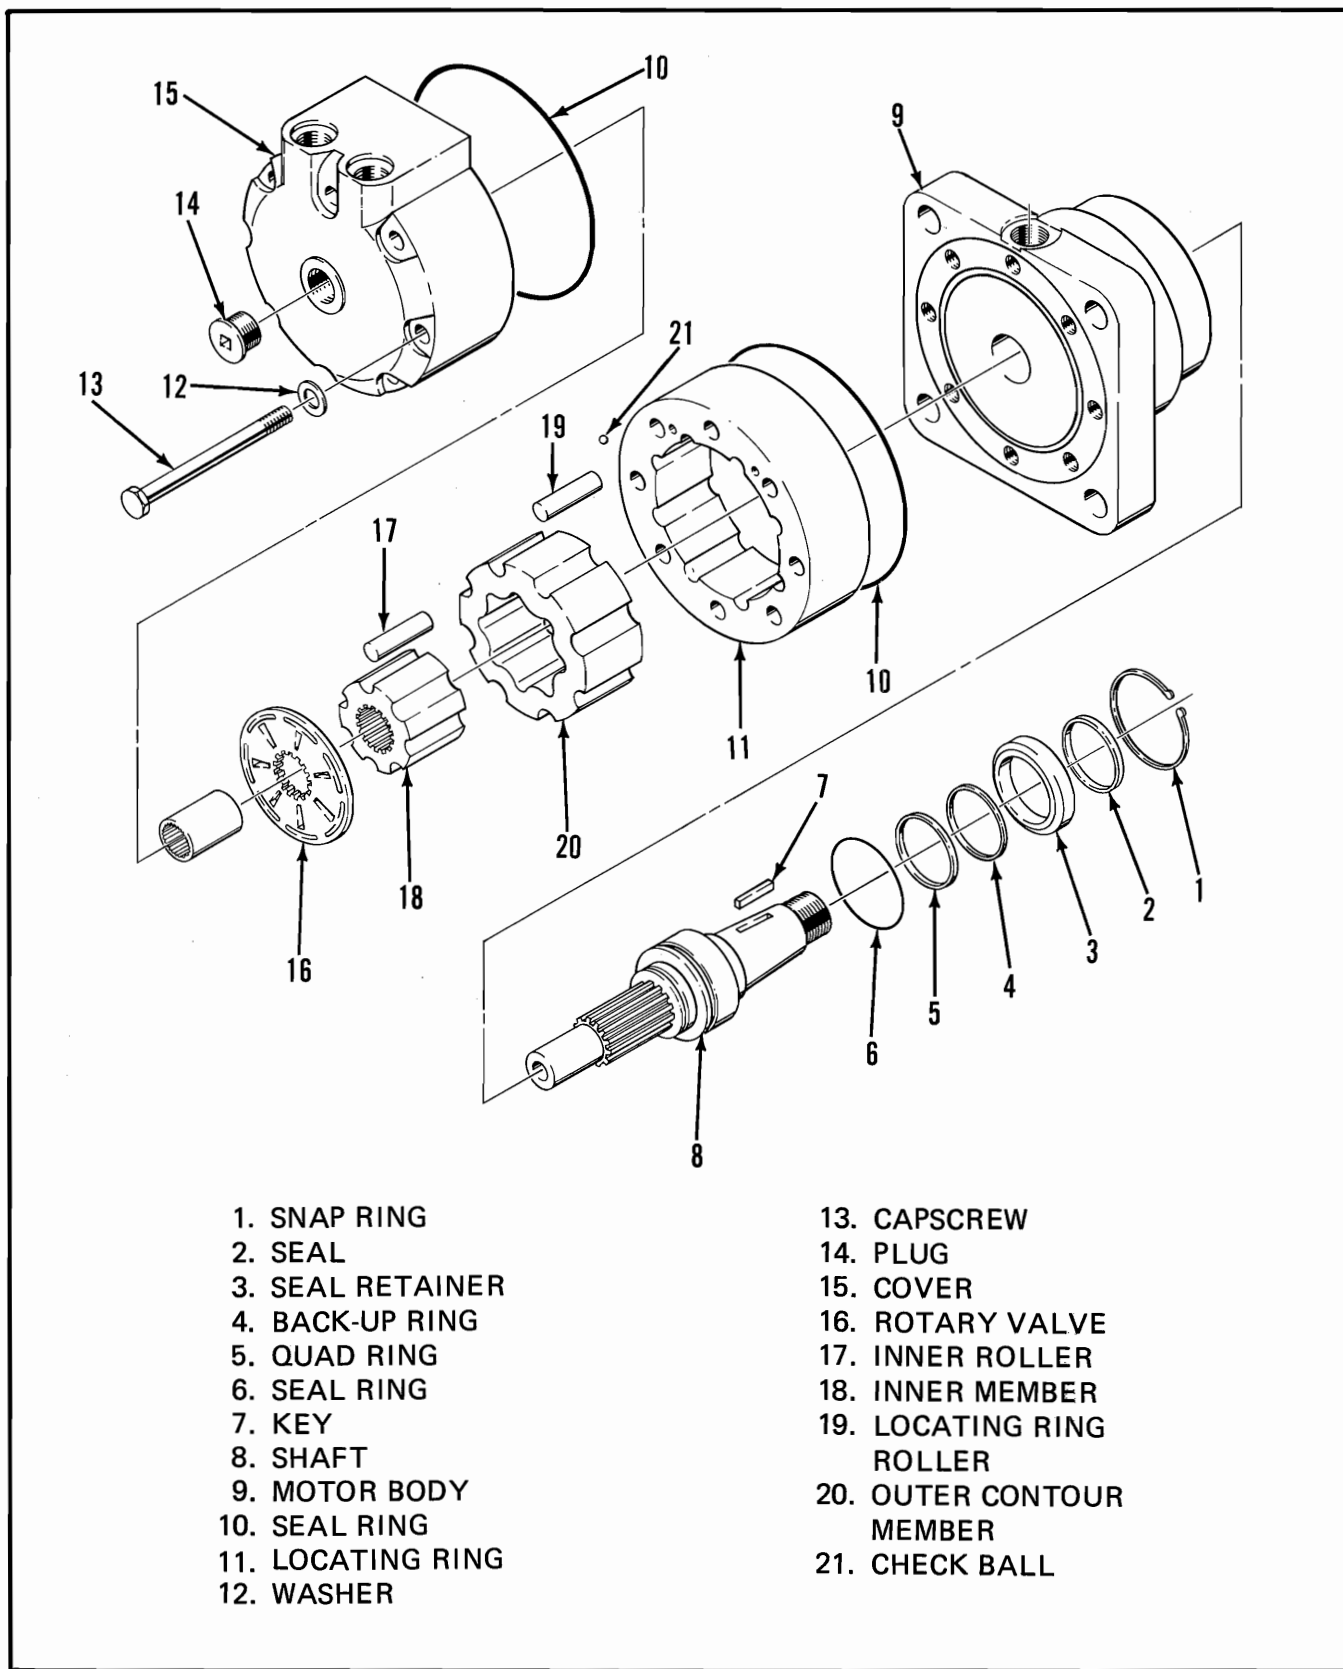

Figure 5-10. Drive Motor
- (1) Refer to Figure 5-10. Place the drive motor on a clean, flat surface with the cover (15) face down.
- (2) Remove the seal retainer snap ring (1).
- (3) Using two screwdrivers, remove the seal retainer (3) using the slot provided.
- (4) Remove the dust seal (2), quad ring (5) and back-up ring (4) and discard.
- (5) Remove the seal ring (6) from the groove in the body bore and discard.